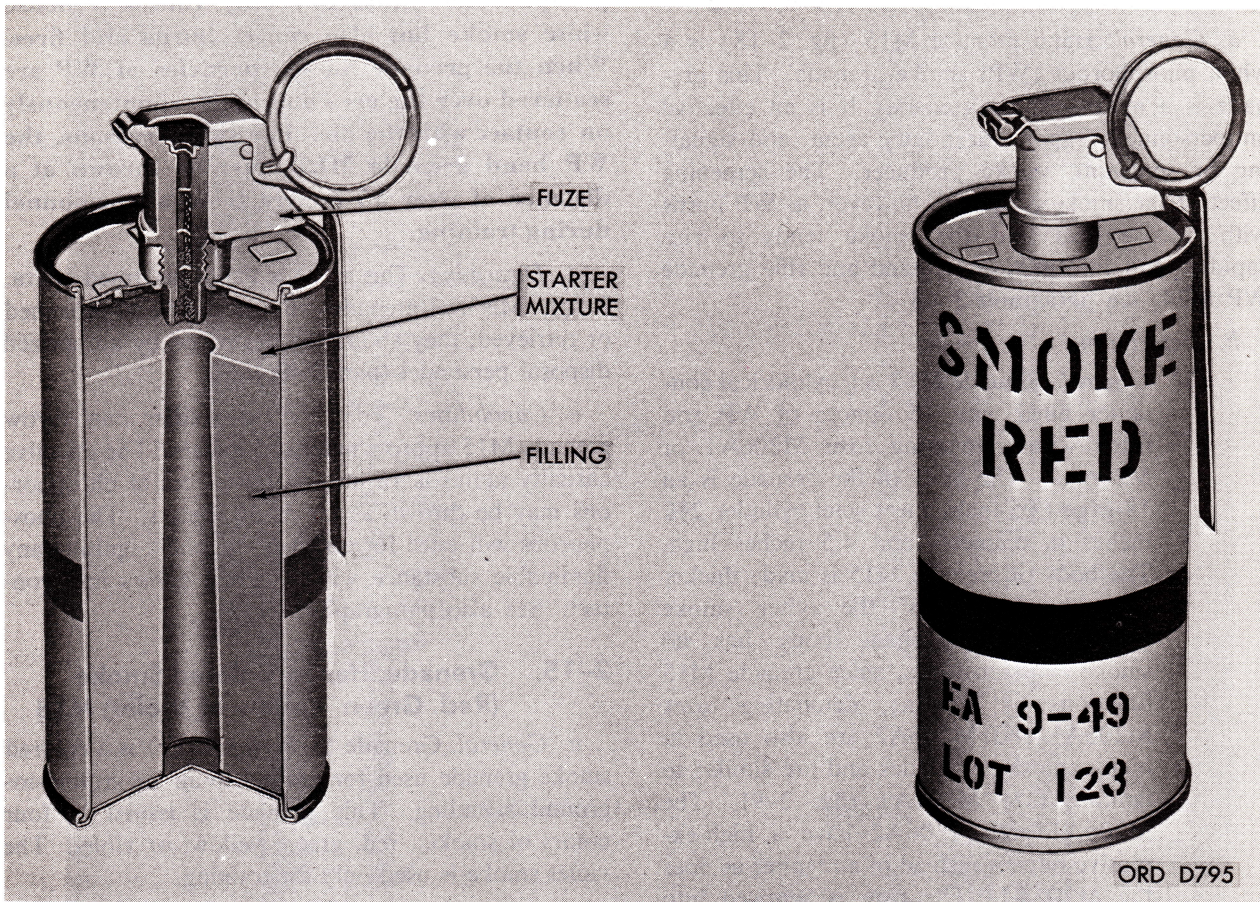

Figure 2-19. Grenade, hand: red smoke M18, w/fuze, M201A1.
a. General. Grenade M18 (fig. 2-19) is a colored smoke grenade used for ground-to-air or ground-to-ground signaling. This grenade is issued in four colors of smoke: red, green, yellow, or violet. The violet smoke is used only for training.
- (1) *General.* The colored smoke grenade M18 is a cylindrical container filled with 11 $\frac{1}{2}$ ounces of either red, green, yellow, or violet smoke mixture and fitted with an igniting fuze M201A1. The body of the grenade is a thin-sheet-metal cylinder 2.5 inches in diameter and 4.5 inches high, with 6 smoke emission holes in the top and 1 in the bottom. Fuze M201A1 is screwed into an adapter in the top of the grenade. A tapered hole in the filling is lined with starter mixture. The top of the filling is also covered with starter mixture. The smoke-emission holes are covered with pressure-sensitive tape to protect the filling from moisture.